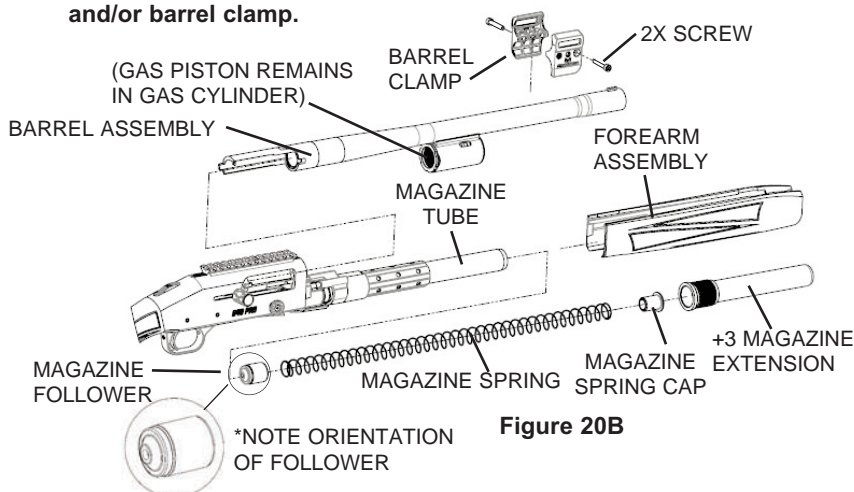

Figure 20B
The action assembly of your model 940™ may be fitted with a +3 magazine extension. If this resembles your model as shown in Figure 20B, follow the procedure below for barrel re-assembly.
3. Install the magazine follower into the magazine tube. Note the proper orientation of the magazine follower (Figure 20B).